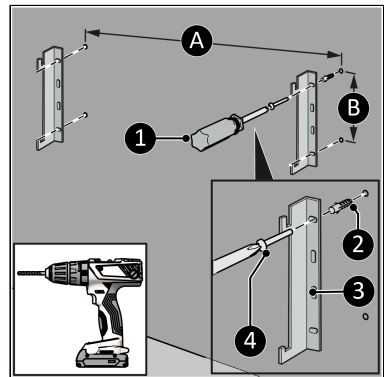

Figure 26.
4. Drill four holes for the brackets, the two lower holes at least 125 mm above the floor. The distance between the vertical holes (Figure 26, pos. B) is 105 mm. The distance between the horizontal holes is approximately (Figure 26, pos. A and B)*:
5. Place wall plugs (Figure 26, pos. 2).
6. Screw and tighten a left and a right bracket (Figure 26, pos. 3) to the wall with a large screw (Figure 26, pos. 4) using a Phillips screwdriver (Figure 26, pos. 1).